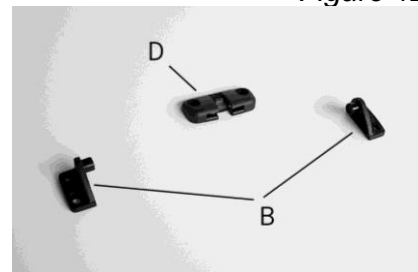

Figure 13
- B. Select the correct form of brackets (fig. 13).